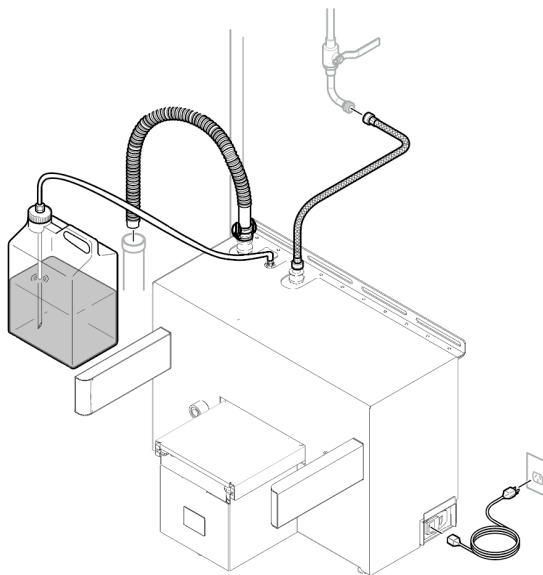

Figure 35 To Prepare the Docker
2. Make sure the bottle of Detergent is connected and has detergent to perform a wash cycle (Figure 35).